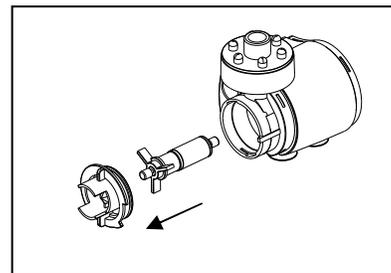

Fig. 15
4. Disassemble the pump and clean the internals of the pump. Fig. 15